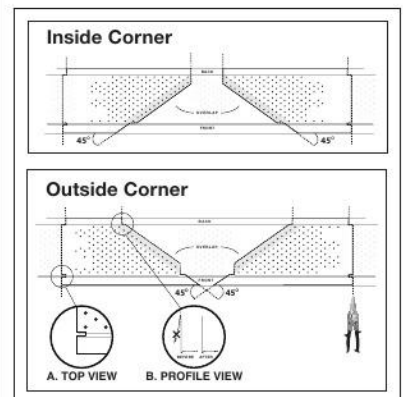

Fig. 9
1. Cut two sections of Gutter Warrior™ LT at 45° angles as shown to create an overlap at the corner. (Fig. 9)
2. Create an overlap at each square end while keeping the built-in drip edge. (Fig. 9, Detail A)
3. Remove the foldover from the back of the Gutter Warrior™ LT. (Fig. 9, Detail B)